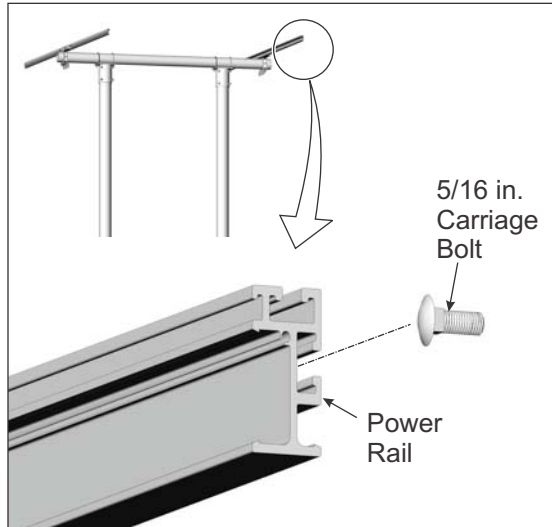

Figure 5-1: Inserting Carriage Bolt
- A. Attach one end of the Support Strut to the Power Rail by first inserting one 5/16 inch carriage bolt in the channel of the Power Rail. (See Figure 5-1)